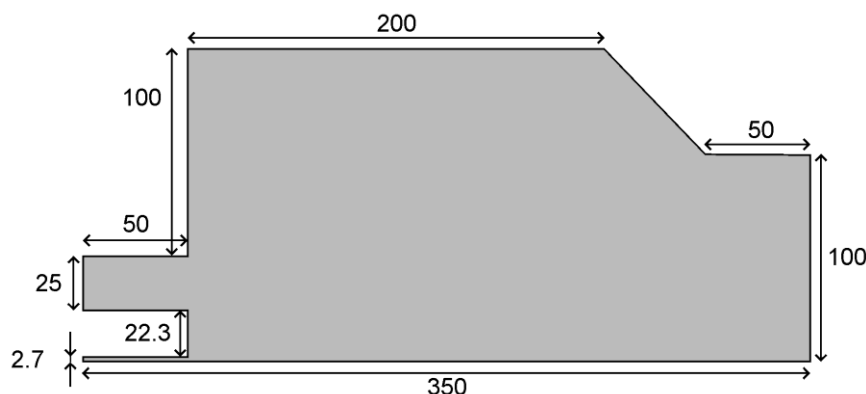
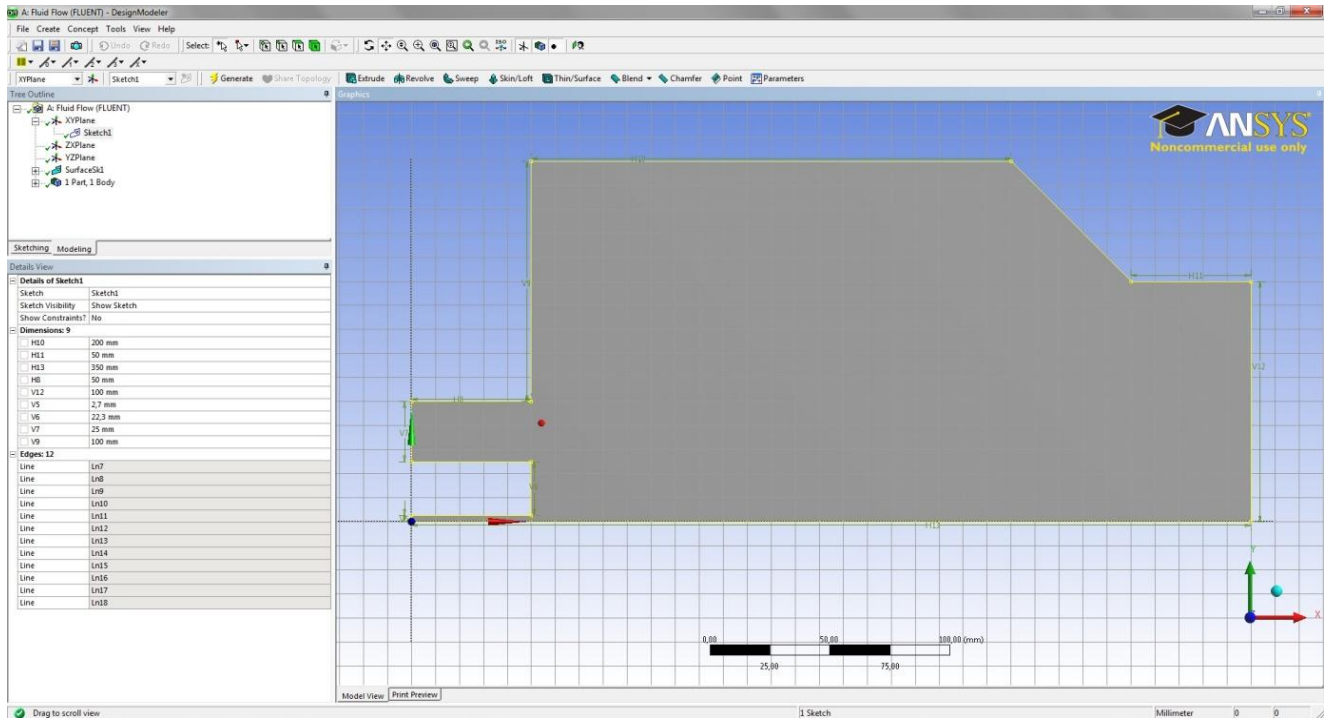

Figure 2. Drawing of the 2D-axisymmetric model.
Figure 3. CAD model and dimensions.
The turbulent flame is modeled using the mixture fraction/PDF modeling approach which is based on solving transport equations for conserved scalars, i.e. mixture fraction and variance. Turbulence-chemistry interaction is modeled using a beta-function PDF. Several chemical species, radicals and intermediates in the combustion process can be included, e.g. CH₄, N₂, O₂, CO, CO₂, H₂O, NO, NO₂, CH₂O, H₂O₂, O, H, OH etc. These compounds are calculated from the predicted mixture fraction and assumption of chemical equilibrium. Create your model according to the drawing in Figure 2, and use boundary conditions given in Table 1. Note all dimensions are in millimeter.
7. Sketching /Draw, use Polyline and make a rough* drawing as shown in Figure 2 and Figure 3 below (Start in origo with P snap. Use close end by right-clicking before you close the loop).
* you will later specify the exact dimensions according to Figure 2.
8. Sketching/Dimensions/General, define dimensions , specify the dimensions according to Figure 2.
You should now have 1Part/1Body with the right dimensions and it should look like Figure 3 and 4.